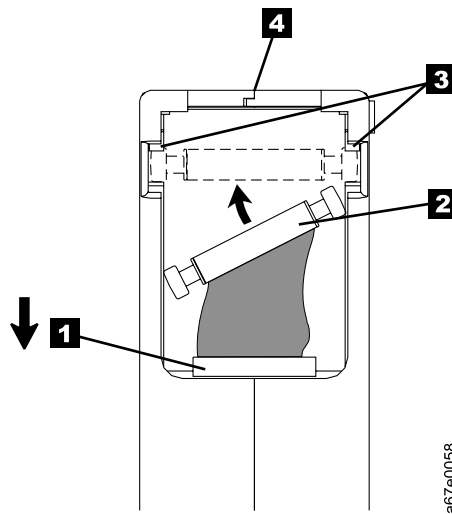

Figure 206. Placing the dislodged leader pin into the correct position. The cartridge door is open to show the leader pin.
- Do not drop the cartridge. If the cartridge drops, slide the cartridge door back and ensure that the leader pin is properly seated in the pin-retaining spring clips (see Figure 205 on page 163). Inspect the rear of the cartridge (the part that you load first into the tape load compartment) and ensure that there are no gaps in the seam of the cartridge case (see **4** in Figure 206 on page 164). If the leader pin has become dislodged or if there are gaps in the seam of the cartridge case, go to “Repositioning or Reattaching a Leader Pin” on page 163.
1. Slide open the cartridge door ( **1** in Figure 206) and locate the leader pin **2** (you may need to shake the cartridge gently to roll the pin toward the door).